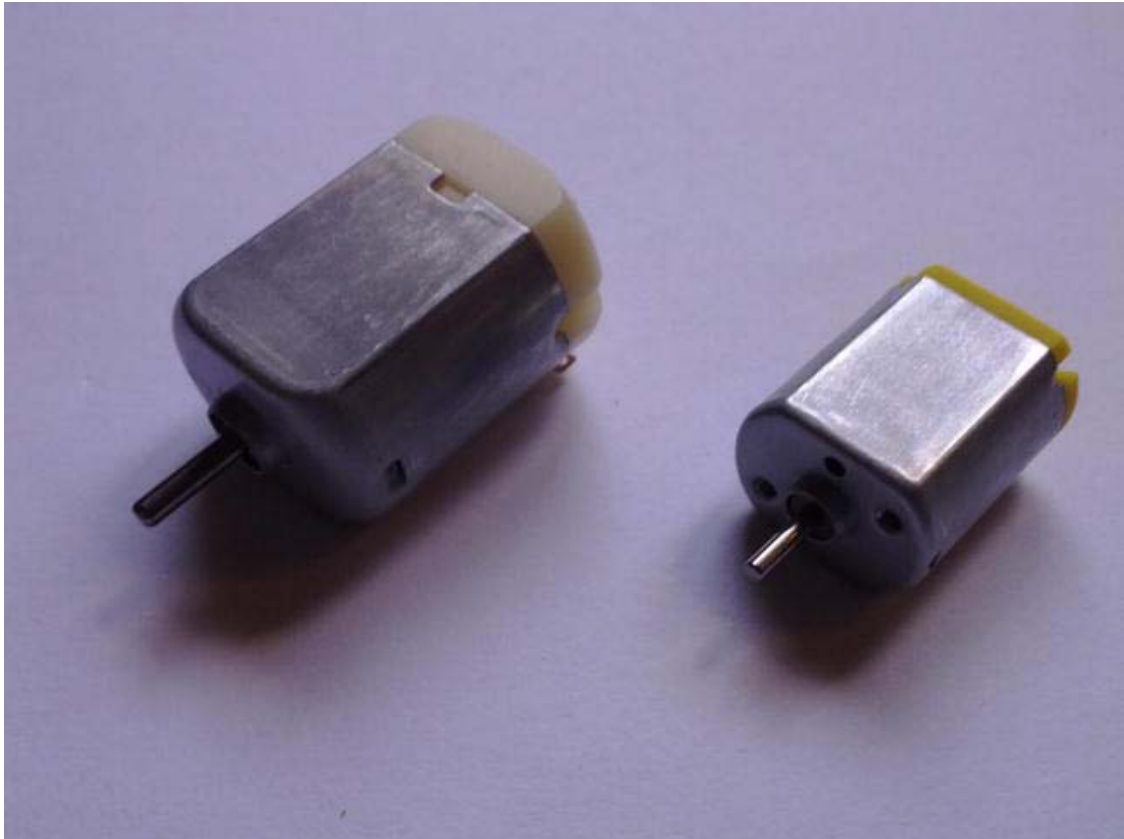

Figure 9-10. DC motors in different form factors
Brushless DC motors are built just like the opposite of brushed DC motors. They have stationary magnets mounted on their drive shaft that are set in motion when an electromagnetic field is applied to them. What's also different about them is that a motor controller converts the direct current (DC) to alternating current (AC). Brushless DC motors are a bit more expensive than their counterparts. Different DC motor form factors are shown in Figure 9-10.